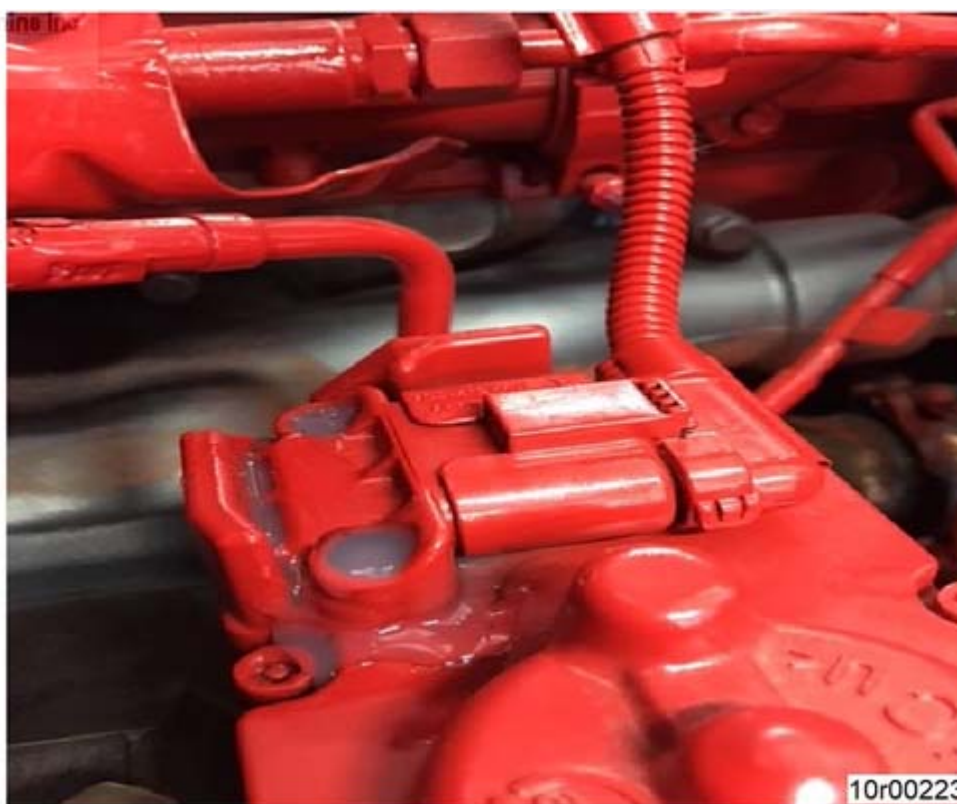

Figure 17, Completed Repair.
- Expect Loctite® to cure as shown in Figure 17 in 2 hours after vehicle returns to service